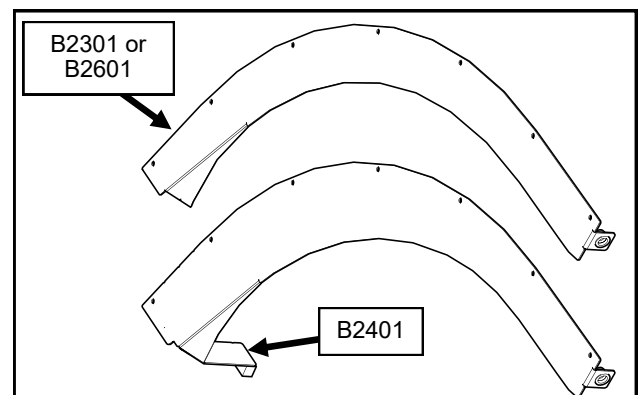
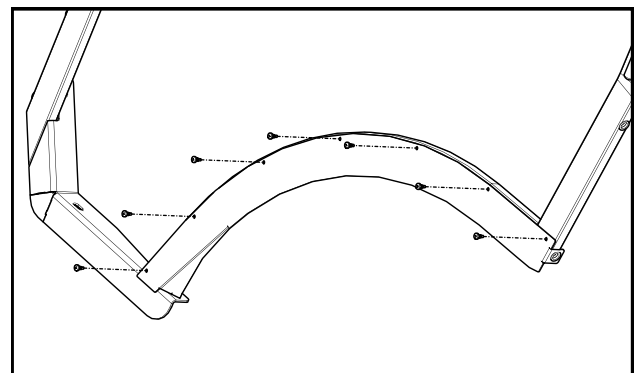

Fig. 5.2a (Identify contour panels, left side shown)
Fig. 5.2b (frame contour panel - left)
**5.2** Align the contour panel (see figure 5.2a) to the rear corner and floorboard of the side frame and secure with clamps. See figure 5.2b. Attach the panel with self-drilling screws using the holes in the contour panel as a guide. Repeat for the other side frame.